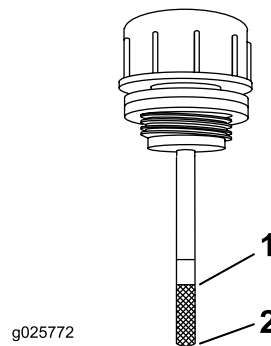

Figure 70
5. Clean the area around the dipstick of the hydraulic-system reservoir (Figure 70).
6. Remove the dipstick from the hydraulic reservoir (Figure 70).
8. Remove the dipstick and look at the end (Figure 70). If the fluid level is at the add mark, slowly pour only enough fluid into the hydraulic reservoir to raise the level to the full line.